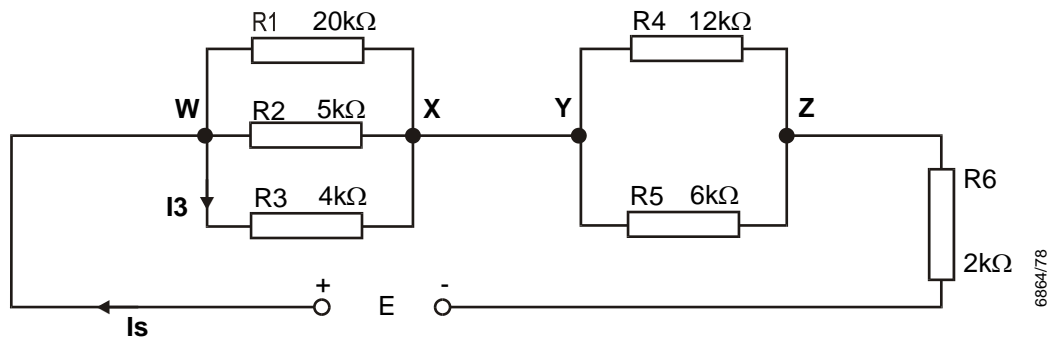

Figure 51
10. In Figure 51 above, the current in R_3 (I_3) is 5 mA. Calculate:
- (vi) The applied voltage (E)